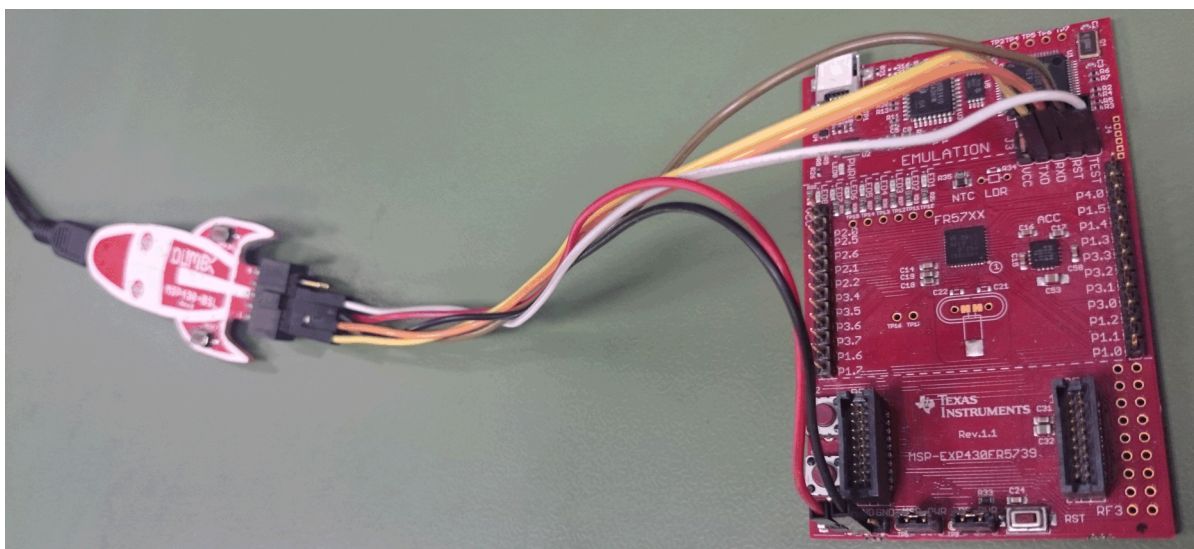

**Figure 13. MSP Tools Driver Properties**
3. Two COM ports are available in the Properties windows. BSL communication using MSP-FET is supported by MSP Application UART1. In the example in Figure 13, COM54 should be used to communicate with the BSL.